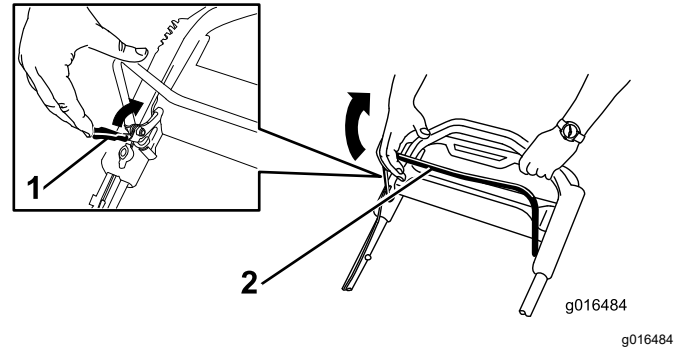

Figure 20
1. Pull the blade-control-bar lock back to the blade-control bar (Figure 20).
2. **Slowly** pull the blade-control bar back to the handle (Figure 20).